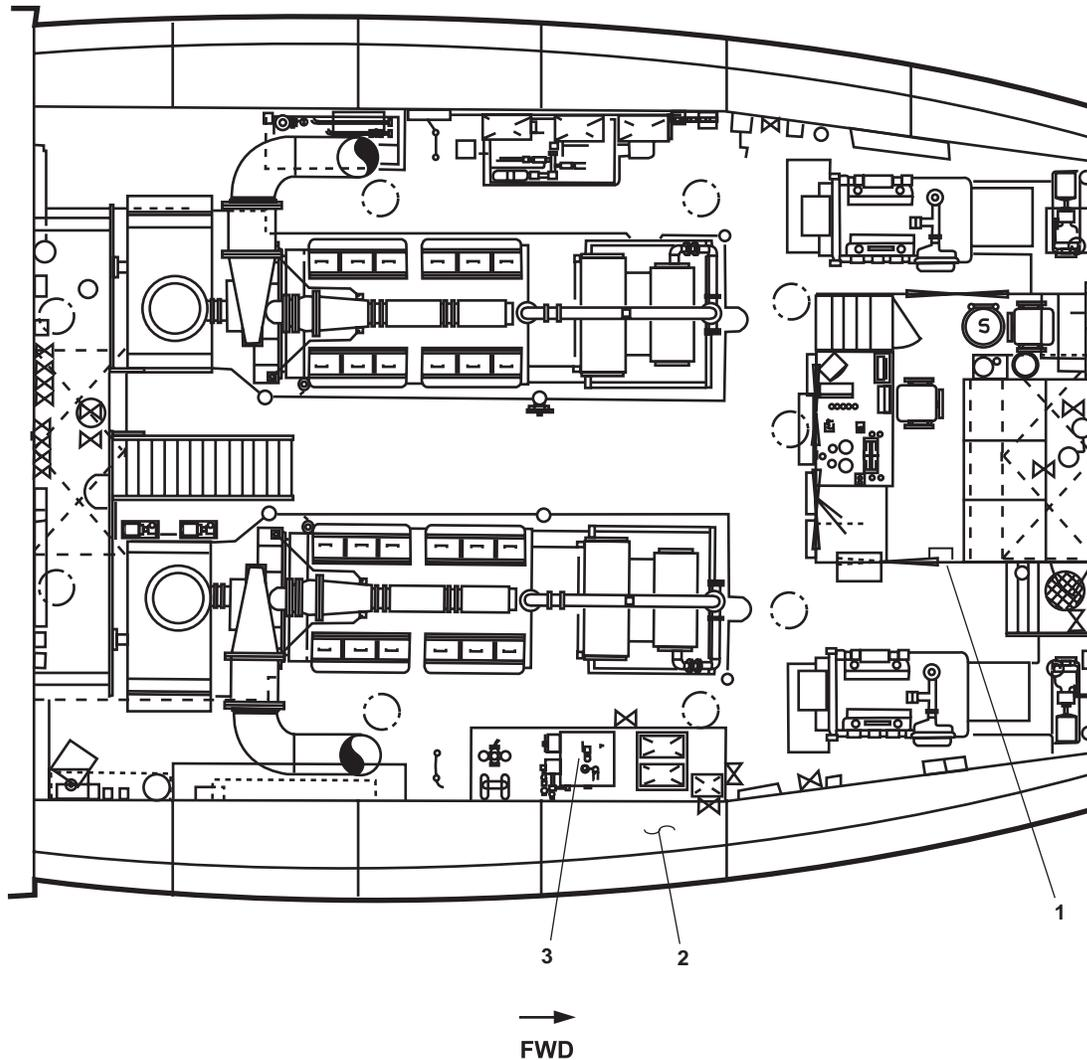

Figure 1. OCM and OWS Major Component Locations (Plan View)
1. OCM Remote Indicator (Alarm) Assembly (figure 1, item 1). This unit, located on the starboard bulkhead of the EOS, is used to display OCM operating information, select the alarm limit (15/70 ppm) of the OCM, and to provide audible and visual alarm indicators when the OCM system detects an unacceptable level of oil content in the effluent.
2. Oily Waste Tank (figure 1, item 2). This tank provides storage for oily bilge water awaiting treatment by the OWS. The tank also stores oil removed by the OWS. Oil and oily water that cannot be sufficiently cleansed by the OWS are stored for discharge to a shore facility.
3. OWS Tank (figure 1, item 3). The OWS is located at frame 33, against the starboard bulkhead. The rectangular, welded carbon steel tank is internally coated with coal tar epoxy, and externally painted with primer and marine enamel. The internal components (baffle, weir, and coalescer boxes) are type II PVC plastic for maximum corrosion resistance. There are no internal fasteners in the OWS tank. The coalescer boxes are filled with special polypropylene granules (beads). To change the coalescer medium, these boxes can be removed from the separator, emptied, refilled, and replaced. The OWS pump and OWS control panel are mounted on the aft side of the OWS tank.